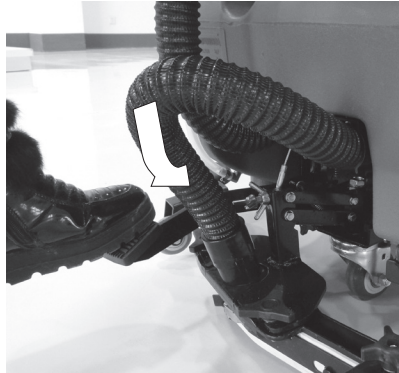

Figure 9
2. Push the lifting pedal down while moving it to the right (as indicated by the arrow) to lift the brush head (Figure 9).